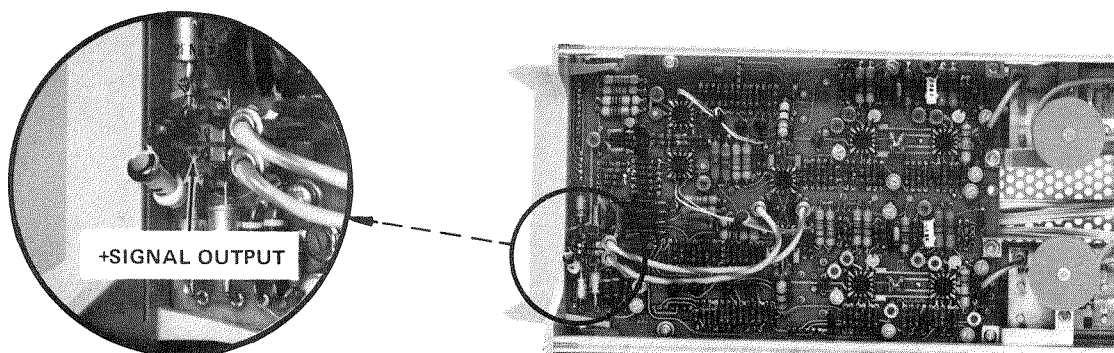

Fig. 5-3. + Signal Output location.
a. ADJUST — The Out Lev (R896) for zero volts from the +Signal Output (see Fig. 5-3) to ground.